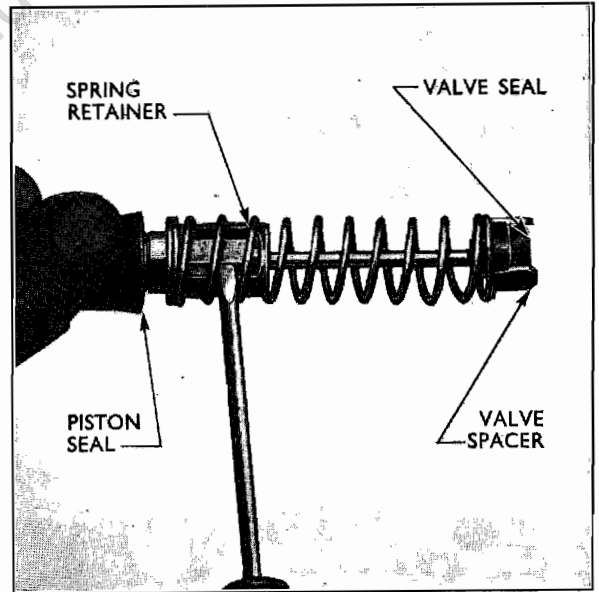

Fig. 15
3. The piston is held in the spring retainer by a tab which engages under a shoulder on the front of the piston. Carefully lift this tab, and remove the piston as shown in Fig. 15.